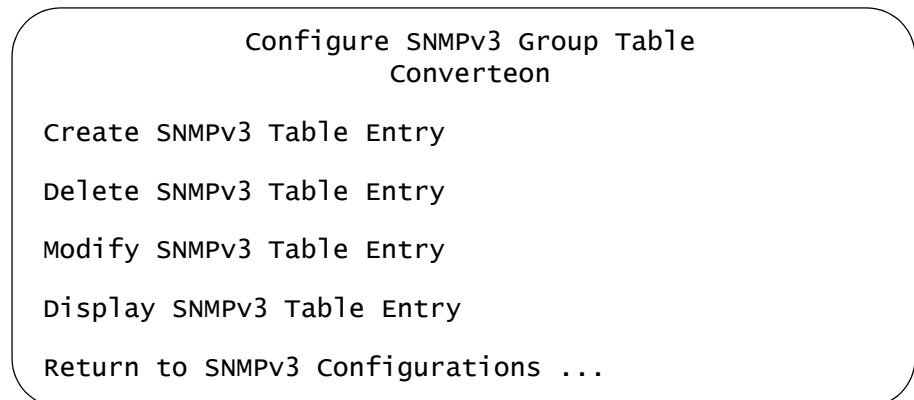

Figure 130. Configure SNMPv3 Group Table Menu
- ❑ From the Main Menu, select **Configuration -> System Configuration -> System Parameters Configuration -> SNMPv3 Configurations -> Configure SNMPv3 Group Table**. The Configure SNMPv3 Group Table menu is shown in Figure 130.